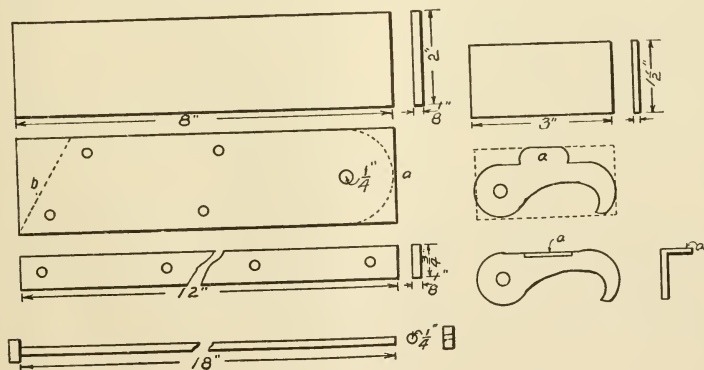

FIG. 212. — IRONS FOR COMBINATION LADDER.
1. Each of the two side pieces that hold the ladder support is cut out of thin iron along the dotted lines shown in Fig. 212, and a hole is drilled for the bolt 1" from the round end *a*. The other holes are for the screws and should be countersunk. The end *b* should be cut at the same angle that the steps are placed with the stringers.